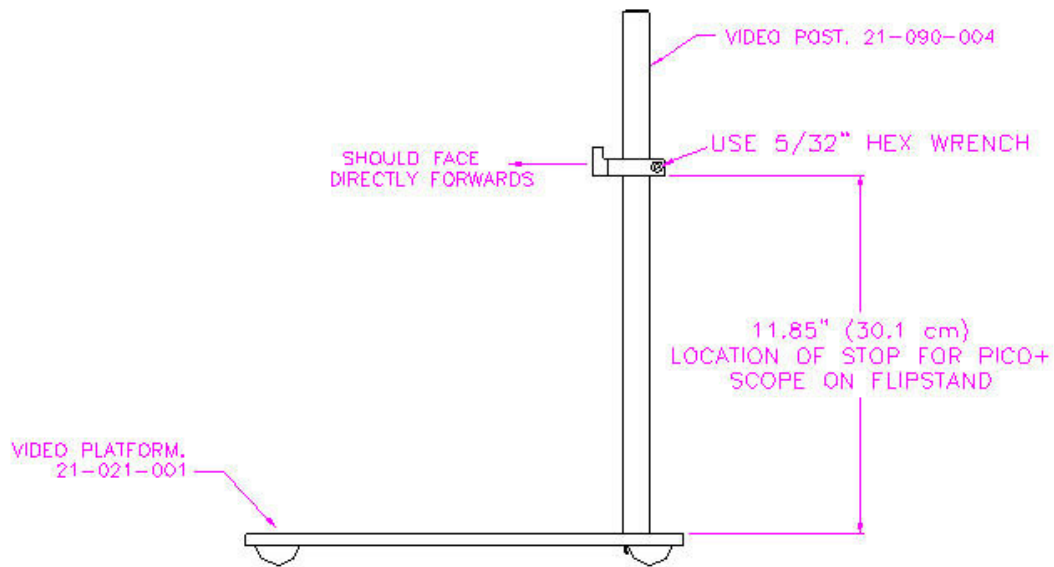

Figure 2 (Base assembly with stop-ring)
1. Screw the video post into the video platform. The stop ring assembly is adjusted with the 5/32" hex wrench. The stop ring should be located in the position shown in **Figure 2** below to assure that the system will focus properly. The position can be moved for special cases after the user is familiar with the focusing procedure.
6. Make sure the stop ring on the pole is set at the correct position. (See **Figure 2**)